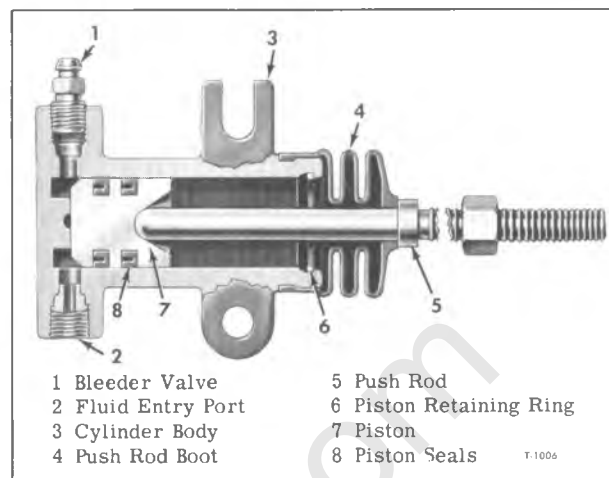
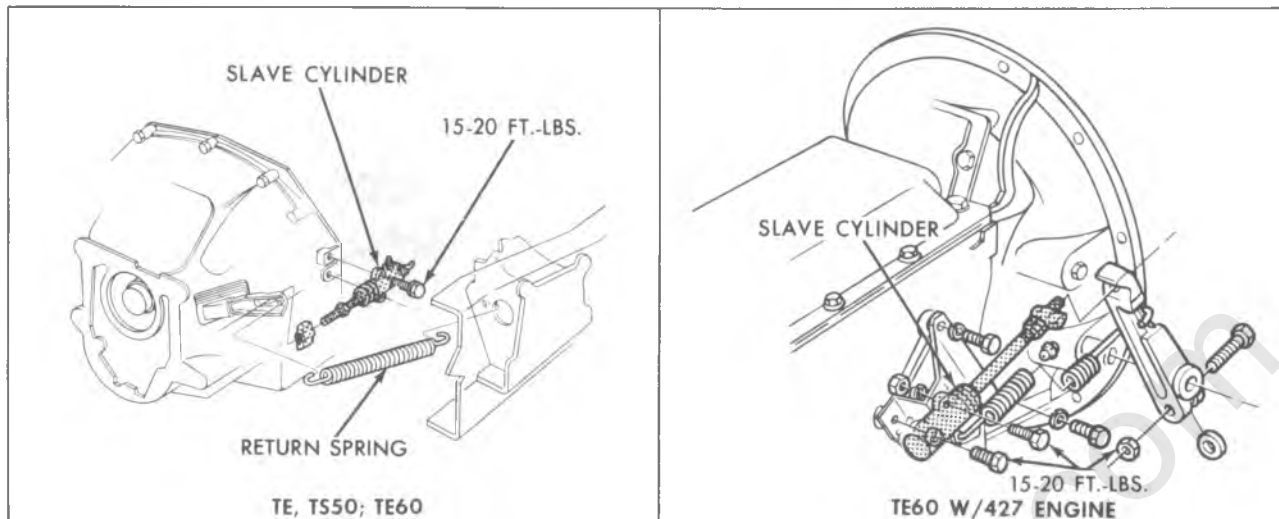

Figure 15—Clutch Slave Cylinder (Typical)
Figure 16 — Clutch Slave Cylinder Installation
The need for bleeding air from the system is generally indicated by a springy, spongy pedal action. The presence of air in system is a result of low fluid level in master cylinder, or if some part of system has been opened. Bleeder valve is provided at the slave cylinder alongside of clutch (fig. 15).
3. Slip end of bleeder drain hose over bleed valve at slave cylinder (8, fig. 15) and place the other end in a glass jar containing enough hydraulic fluid to cover end of hose. Open bleeder valve with wrench and observe flow of fluid from hose. Close bleeder valve as soon as bubbles stop and fluid flows in a solid stream.
The clutch slave cylinder (fig. 15) mounted at side of clutch assembly (fig. 16) activates the mechanical clutch release fork or lever to disengage clutch when cylinder is pressurized.
REMOVAL (Refer to Fig. 16)
DISASSEMBLY (Refer to Fig. 15)
INSPECTION (Refer to Fig. 15)
ASSEMBLY (Refer to Fig. 15)
1. Bolt slave cylinder assembly to engine (fig. 16).